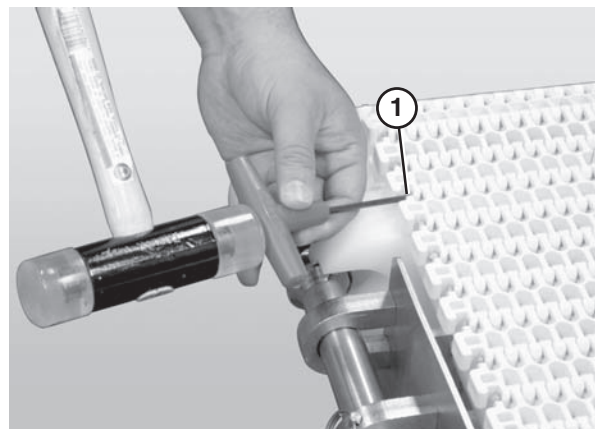

Figure 62
2. Use a punch and hammer to push the belt rod out by striking the rod end opposite the retaining head (**Figure 62, item 1**).